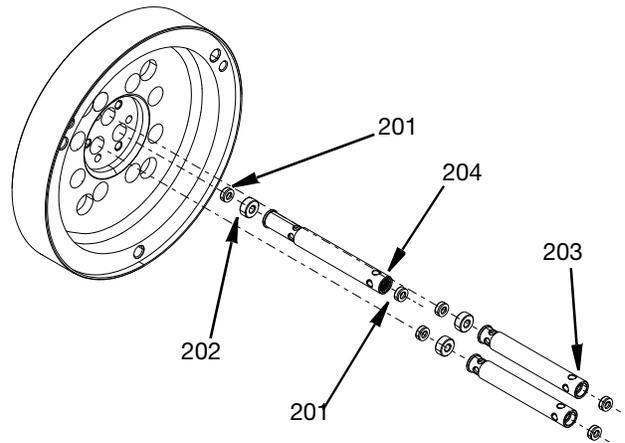

FIG. 29
9. Insert the rod seals (201) into the central body (101). Insert inlet the rod bearings (202) into the central body. Insert the rod seals (201) into the top end of both packing spacers (203) and the return packing spacer (204). Insert the packing spacers (203) and the return packing spacer (204) into the central body (101). Note that longer return packing spacer (204) is placed in chamber III as marked on the front of the central body (101). See FIG. 29.